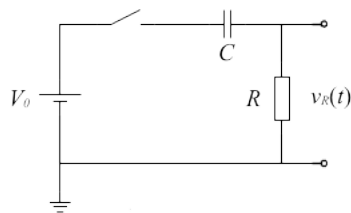

Figure 6 The circuit for problem 2.
2.  $RC$  circuits can be used as the timing mechanism in an electronic clock, where the resistor and capacitor are chosen to yield an appropriate  $\tau_{RC}$ . For the circuit shown in Figure 6, we saw previously that the voltage across the resistor is given as